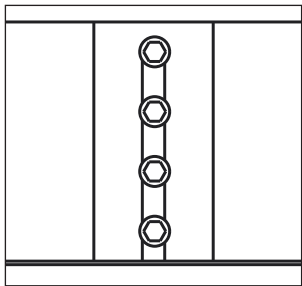

Figure 6: Clearance Holes
5. Drill four 0.266" (~17/64") clearance holes through the front and rear walls of the tube at each marked stud location. Refer to **Figure 6**.